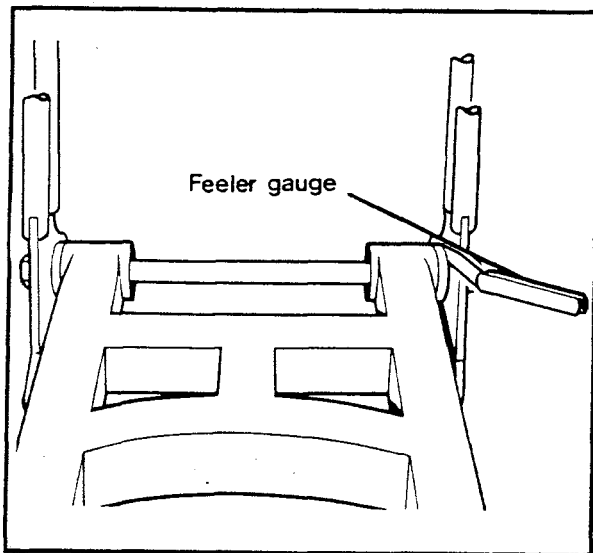

Figure 5-6. Swing Arm Free Play
5. See Figure 5-6. When assembled there should be no more than 0.25 mm (0.010 in.) and zero minimum end float. Shims can be inserted or removed between the journal flange and the nylon thrust washer to achieve this. Although zero end float is acceptable the swing arm should not be tight and should always be able to drop under its own weight, with the pivot bolts tightened.